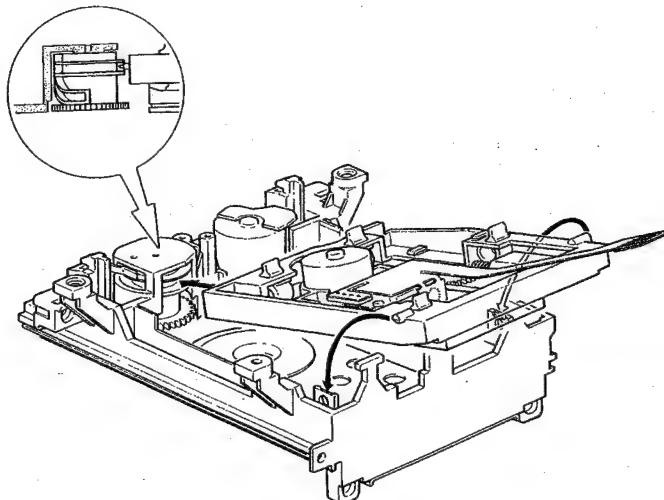

Fig. 5
- h) Mount the CD Mechanism as shown in Fig. 5.